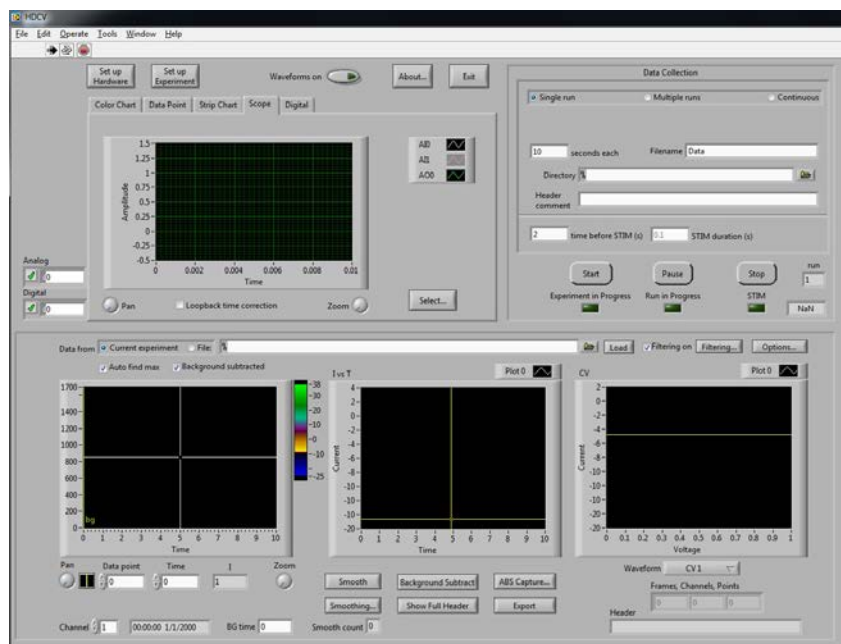

Figure 4-8: HDCV Application upon First Startup
10. After installation of the National Instruments software, the PCIe-6363 data acquisition device, and HDCV software, the HDCV software should be operational. Open the installation file folder for HDCV and select the HDCV application. HDCV can be started by double clicking on the application. After a few seconds, HDCV should appear on the monitor (see: Figure 4-8). If HDCV does not start please refer to troubleshooting or contact Pine Research Instrumentation.